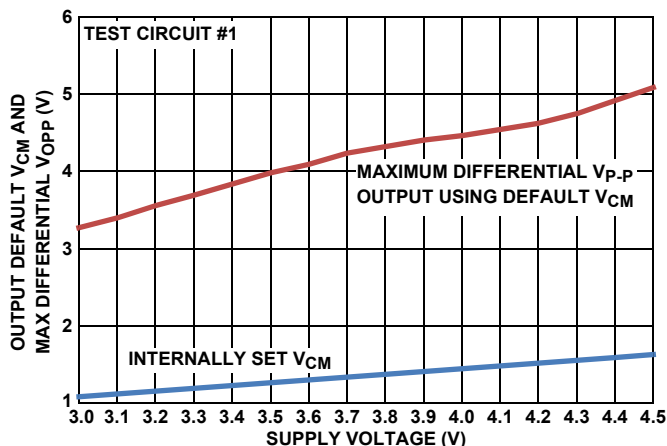
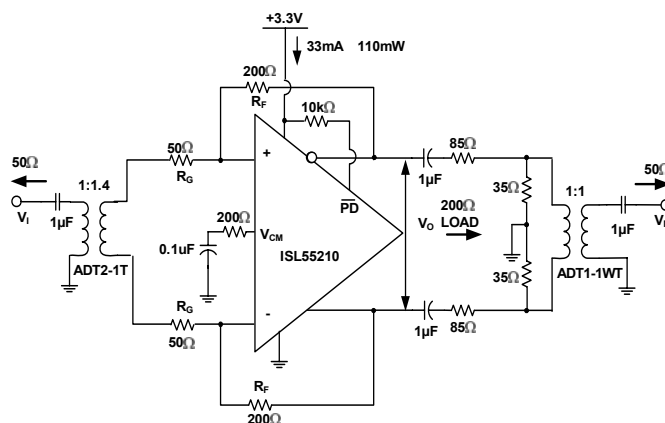

FIGURE 26. DEFAULT  $V_{CM}$  AND MAX  $V_{OPP}$  vs SUPPLY VOLTAGE
FIGURE 28. TEST CIRCUIT #1
The circuit of Figure 28 forms a starting point for many of the characterization curves for the ISL55210. Since most lab sources and measurement devices are single-ended, this circuit converts to differential at the input through a wideband transformer and would also be a typical application circuit coming from a single ended source. Assuming the source is a  $50\Omega$  impedance, the  $R_G$  resistors are set to provide both the input termination and the gain. Since the inverting summing nodes act as virtual ground points for AC signal analysis, the total termination impedance across the input transformer secondary will be  $2 * R_G$ . Setting this equal to  $n^2 * R_S$  will give a matched input impedance inside the bandwidth of the transformer (where "n" is the turns ratio). The amplifier gain is then set by adjusting the feedback resistors
Working with a transformer coupled input as shown in Figure 28, or with two DC blocking caps from a differential source, means the output common mode voltage set by either the default internal  $V_{CM}$  setting, or a voltage applied to the  $V_{CM}$  control pin, will also appear as the input common mode voltage. This provides a very easy way to control the ISL55210 I/O common mode operating voltages for an AC coupled signal path. The internal common mode loop holds the output pins to  $V_{CM}$  and, since there is no DC path for an  $I_{CM}$  current back towards the input in Figure 28, that  $V_{CM}$  setting will also appear as the input common mode voltage. It is useful, for this reason, to leave any input transformer secondary centertap unconnected. The internally set  $V_{CM}$  voltage is referenced from the negative supply pin. With a single 3.3V supply, it is very close to 1.2V but will change with total supply voltage across the device as shown in Figure 26.
Most of the characterization curves start with Figure 28 then get different gains by changing the feedback resistor,  $R_F$ , use different input transformers where then the  $R_G$  is also adjusted to hold an input match, or vary the loading. For load tests below the 200 $\Omega$  shown in Figure 28, a simple added shunt resistor is placed across the output pins. For loads >200 $\Omega$ , the series and shunt load  $R$ 's are adjusted to show that total load (including the 50 $\Omega$  measurement load reflected through the 1:1 output measurement port transformer) and provide an apparent 50 $\Omega$  differential source to that transformer. This output side transformer is for measurement purposes only and is not necessary for final applications circuits. There are output interface designs that do benefit from a transformer as part of the signal path, but the one shown at the right of Figure 28 is used only for characterization to get a doubly terminated 50 $\Omega$  measurement path going differential to single ended.
The characterization circuit of Figure 28 shows one possible input stage interface that offers several advantages. The ISL55210 can also support a DC coupled differential to differential or single ended input to differential requirement if needed. Where AC coupling is adequate, the circuit of Figure 28 simplifies the input common mode voltage control. If the source coming into this stage is single ended, the input transformer provides a zero power conversion to differential. The two gain resistors ( $R_G$  in Figure 28) provide both the input termination impedance and the gain element for the amplifier. For minimum noise, only  $R_G$  should be used and set to achieve the desired input impedance. Since the ISL55210 is a VFA device, these resistor values can be scaled up and down a bit more freely than a current feedback based FDA.
3.6VP-P output capability. The VP-P reported in Figure 26 is an asymmetrically clipped maximum swing. Going 10% above this 3.7V target to 4.1V will be within the recommended operating range and give some tolerancing headroom that would also suggest the VCM voltage be moved up to approximately 1.5V. This coincides with the default output VCM from Figure 26. Operating at +4.1V single supply in a Figure 28 type configuration will give the maximum linear available output swing of 3.6VP-P.
The differential inputs of the ISL55210 also have operating range limits relative to the supply voltages. Operating in an AC coupled circuit like Figure 28 will produce an input common mode voltage equal to the outputs. The inputs can operate with full linearity with this VCM voltage down to 1.1V above the GND connection (or -VS supply). On the default 1.2V output VCM on +3.3V supplies this gives a 100mV guardband on the input VCM voltages. Overriding the default VCM by applying a control voltage to the VCM pin should be done with care in going towards the negative supply due to this limit. On the + side, the maximum VCM above the -VS supply is 2V so there is more room to move the output VCM up than down from the default value.
Test circuit #1 (Figure 28) is implemented on an Evaluation Module Board available from Intersil. This board includes a number of optional features that are not populated as the board is delivered. The full EVM board circuit is shown in Figure 38 where unloaded (optional) elements are shown in green.